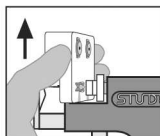

Figure 8
4. Insert one stud head into the stud adapter and pull the mount straight up to release the stud from the mount (Figure 8).